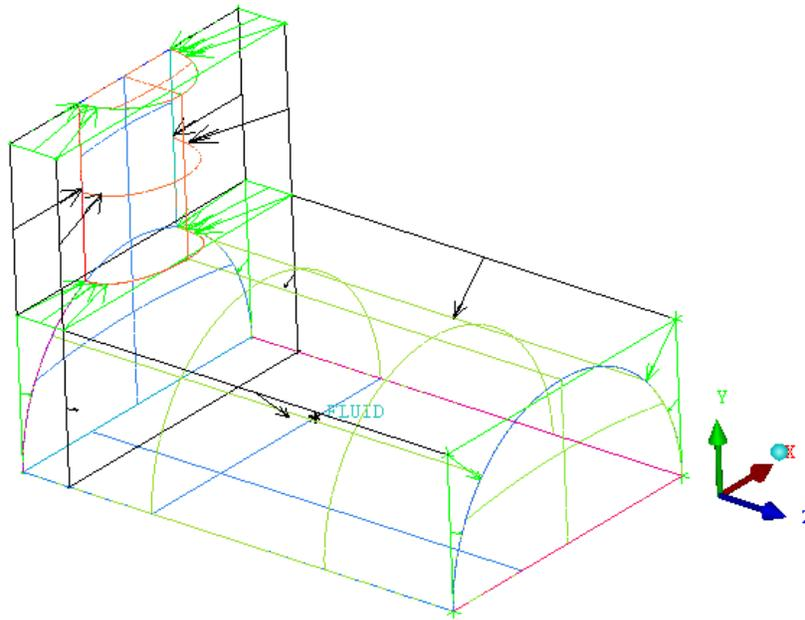

Figure 8: Projection of Edges to the Associated Curves
6. Verify that the correct associations have been set (Figure 8).
In Figure 8 Surfaces display has also been enabled.